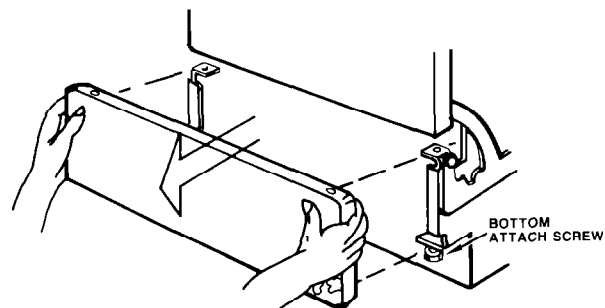

FIGURE 5
- (A) Loosen the two bottom attach screws in the access panel. (Figure 5)
- (D) Close door. Access panels can now be removed by pulling down and away from dishwasher. (Figure 5)